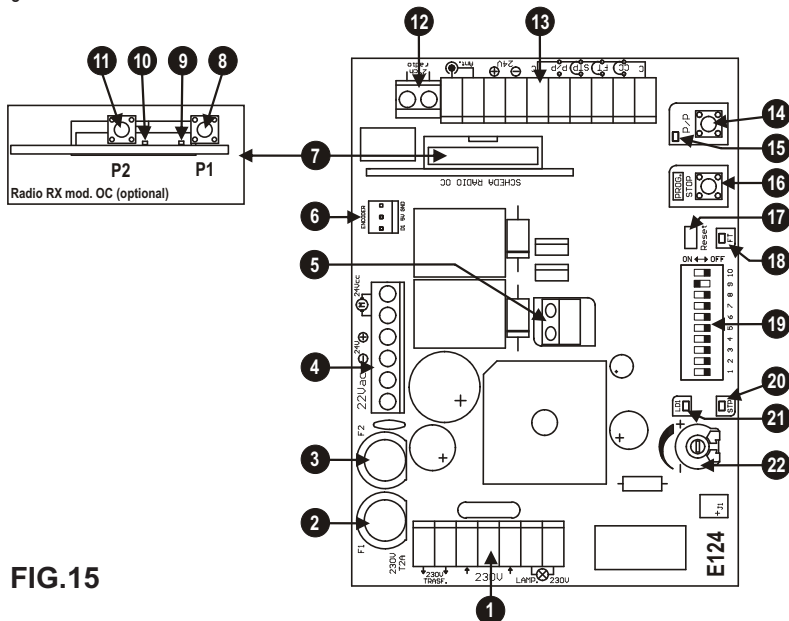
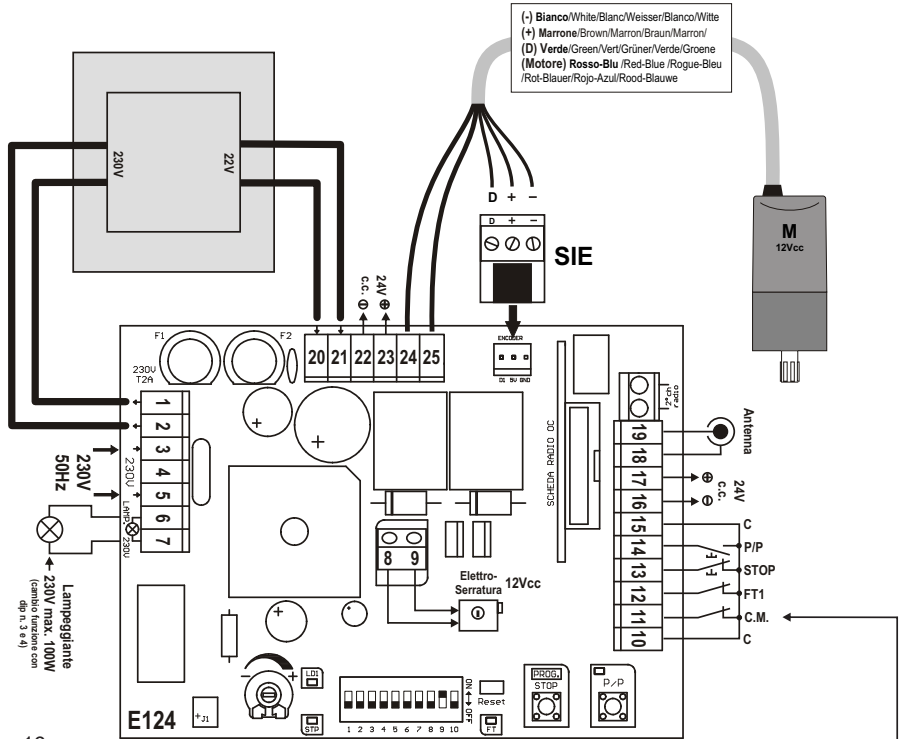

FIG.15
Fig. 16
For connections, refer to tables 1 and 2 and figure 16.
During the self-learning phase, the key S/S is pressed repeatedly (14 in fig 15). Alternatively the S/S control can be used (terminal 14, fig. 16) or the radio transmitter memorised on the first channel of the receiver.
- 2- Press and hold PROG to reset, and use a screwdriver to short the Reset jumper (17 in fig. 15).